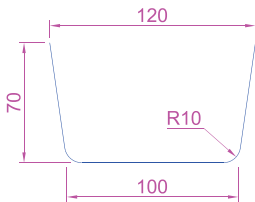

Fig. 17.30 Rulesurf – the outline
2. In the **3D Navigate/Front** view construct the pline as shown in Fig. 17.30.